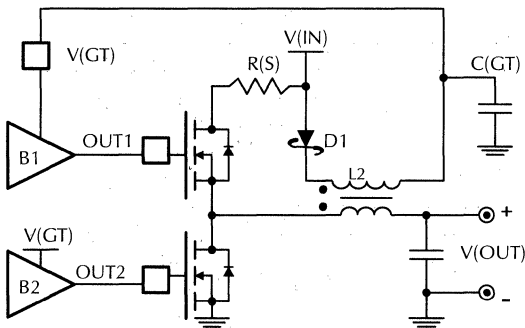

Figure 2. Generating V(GT) bias voltage
A two to one secondary winding from the 5V main output inductor will provide the gate drive voltage needed for high side switching (fig. 2). Because one end of the winding is tied to the input, the secondary voltage will be 10V above the input. When specifying the inductor, the maximum current rating of the inductor is the sum of the peak main output current and turns ratio multiplication of the maximum secondary current only if both outputs draw maximum current at the same time. Depending on I(GT) load requirements, the inductor current rating may be specified for maximum main output current without including the secondary current requirement.